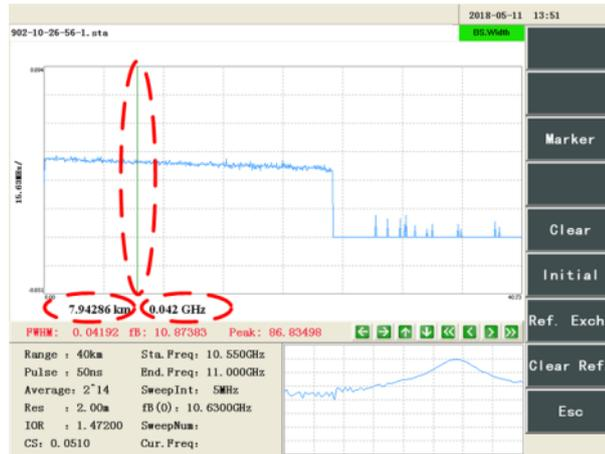

Figure 8-13 Spectral width distribution curve
Step 4: Click [Multiwindow] → [Spectral width distribution] to enter the spectral width distribution window as shown in Figure 8-13. The specific operation of the spectral width distribution window is described in Chapter IV, Section 1.3.
The curve in the “spectral width distribution” window is the distribution curve of Brillouin spectral width along the fiber tested by the instrument. The vertical line in the window of Figure 8-13 is the cursor. The “7.94286km” below the horizontal axis is the distance value of the position where the cursor is located. “0.042GHz” is the spectral width value of the position where the cursor is located.